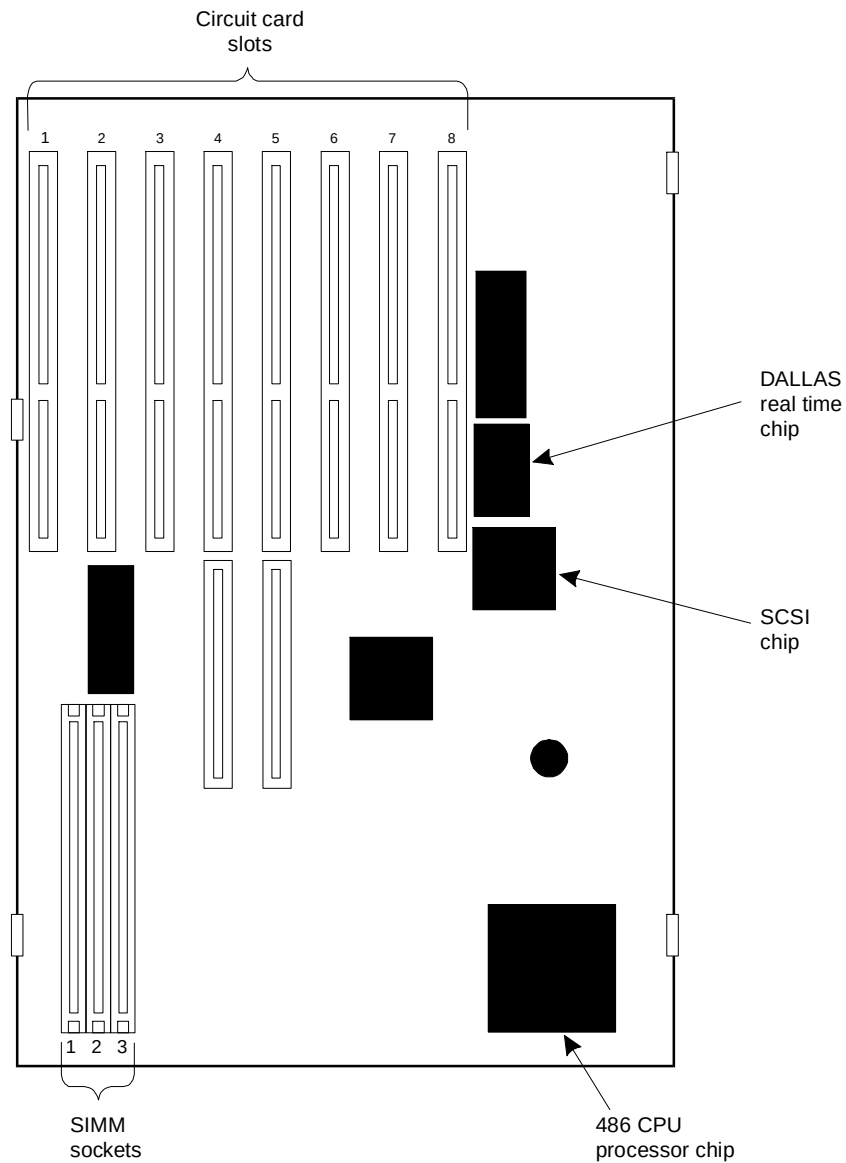

Figure C-1. SIMM Socket Location on System Board
This SIMM is located in the left front corner of the system board, parallel but opposite to the peripheral bay. See Figure C-1 below.
7. Locate the 16 MB or 4 MB SIMM. See Figure C-1 above.
8. Locate the SIMM in the left, front area of the unit. See Figure C-1.